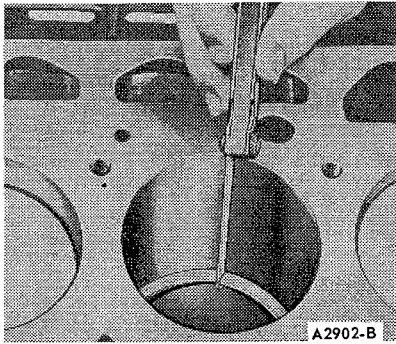

FIG. 12 Checking Piston Ring Gap
5. Measure the gap between the ends of the ring with a feeler gauge (Figure 12). If the ring gap is less or greater than the specified limits, try another ring set.